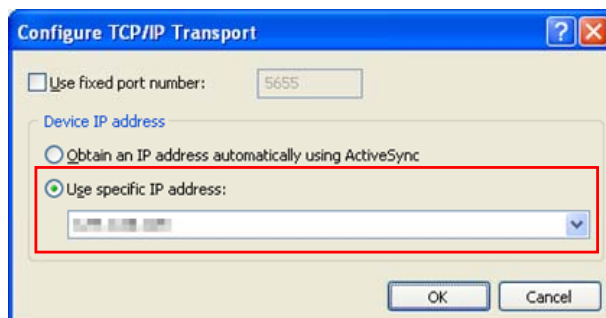

Figure 5.29
6. Click **Transport:** to access **Configure...** and set up **Device IP address** as shown in Figure 5.29.